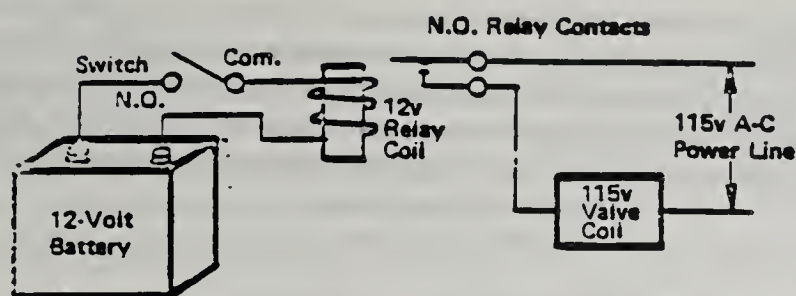

FIGURE 1-23B. A relay or contactor may be used to "interface" from one type of power to another.
**Figure 1-23B. Transition.** Relays or contactors may be used as intermediary devices for coupling two circuits which operate at different voltage or frequency levels, between D-C and A-C circuits, or between single-phase and 3-phase. They transmit electrical signals from one circuit to the other while keeping the two circuits from intermingling. In this sense a relay is acting as an "interface" device for a purpose similar to that described for fluidic interface devices. See Page 173.